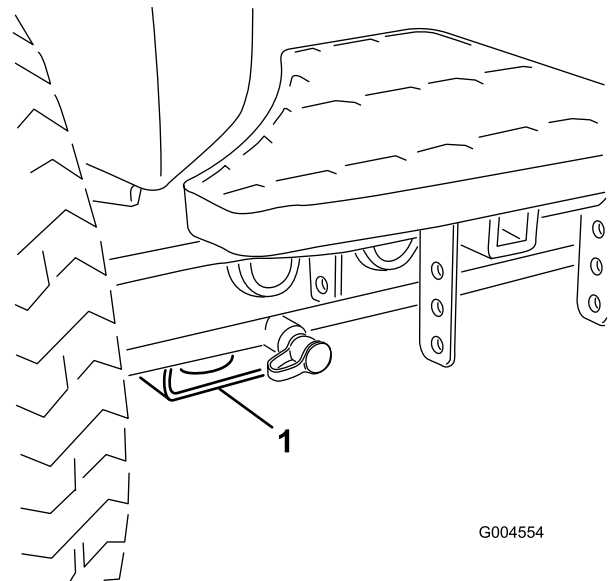

Figure 26
- Front—rectangular pad, under the axle tube, inside each front tire (Figure 26).